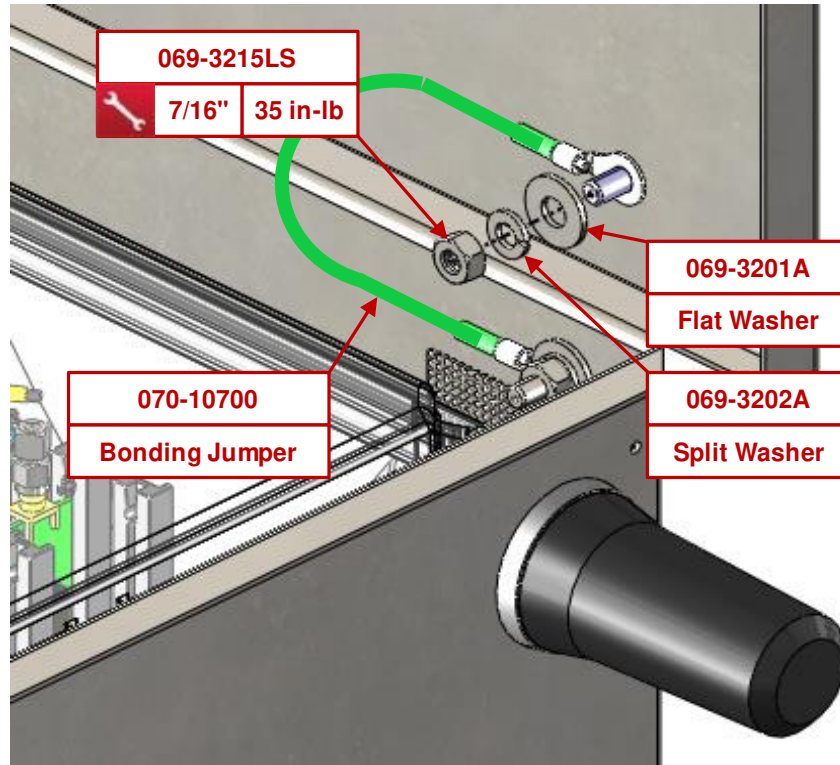

Figure 6: Connect Bonding Jumper
4.2.9 Connect the bonding jumper to the enclosure cover as shown in **Figure 6**.